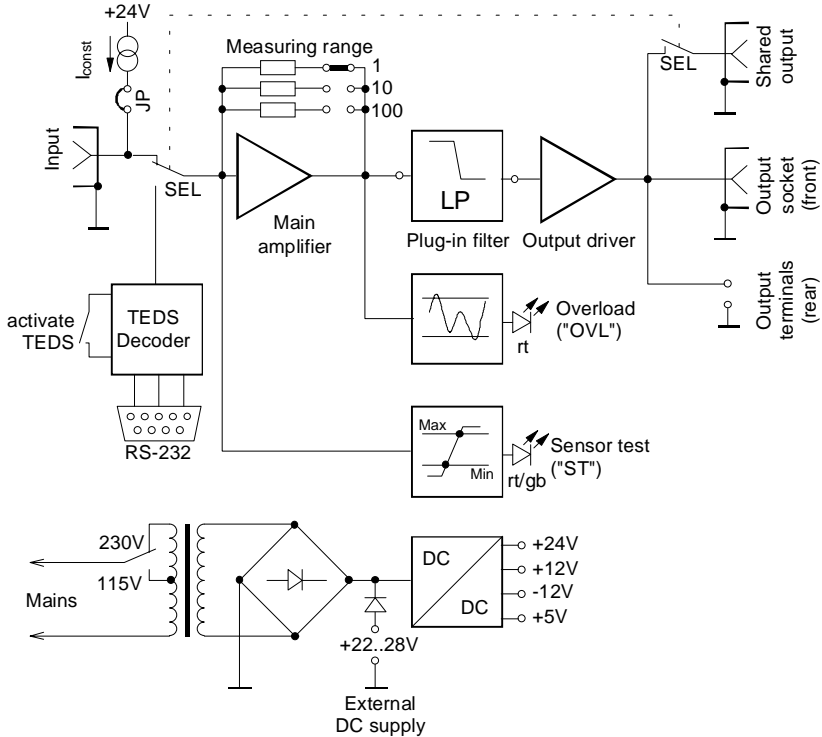

Figure 1: Block diagram
Figure 1 shows the block diagram of one measuring channel with the most important functional groups.
**Main Amplifier** The input is followed by the main amplifier (see Figure 1). This amplifier has a selectable gain factor by means of a slide switch, in steps of 1, 10, and 100. The amplifier stages of the different channels work independently.